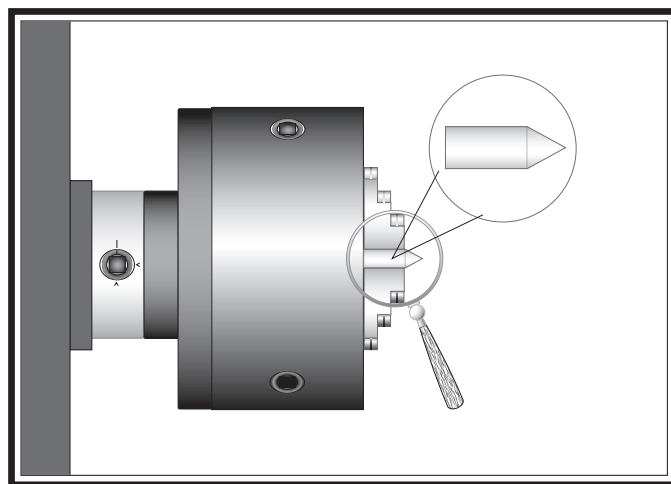

Figure 59. Turning a dead center.
4. Use the other piece of round stock to make a dead center, and turn it to a 60° point, as shown in **Figure 59**.